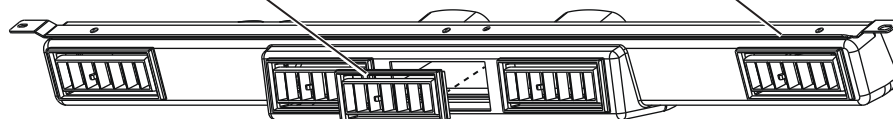

Figure 1
7. Install louver into the under dash assembly as shown in Figure 1, below.